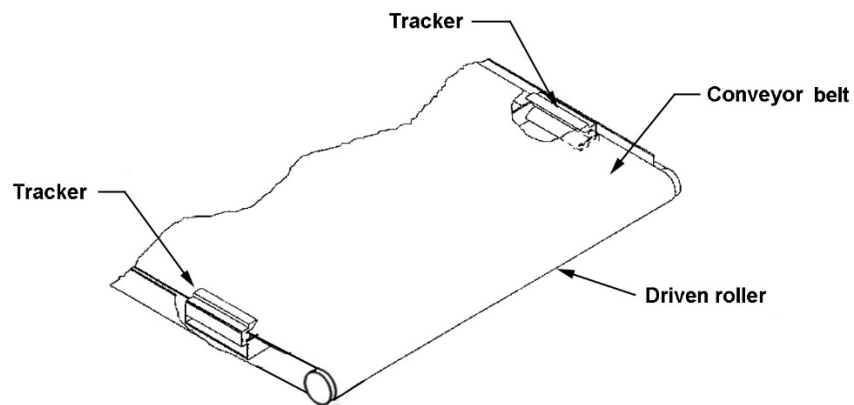

Figure 11-1: Underside of conveyor shown
6. On the underside of the conveyor table, there are U-channels welded to the table. The Tracker is positioned on the inside of the first U-channel on the infeed side of sander (Figure 11-1). The back of tracker is magnetized and will stick to side wall of conveyor table. Do not install tracker if edge of conveyor belt is damaged or torn.